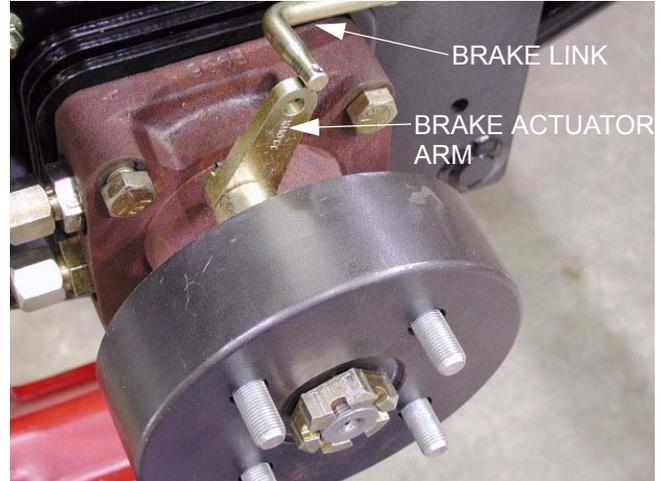

Figure 3.7
3.7. If in doubt about the source of brake drag, disconnect the brake link rod from the actuator arm on the brake assembly. The actuator arm should return to center, releasing the brakes. See Figure 3.7.